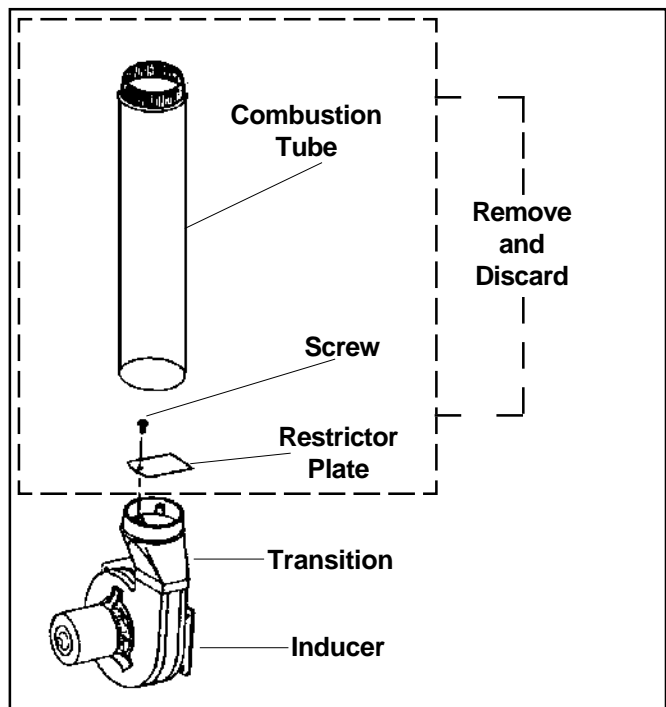

Figure 12. G6RK Horizontal Vent Modification
3. To gain access to the restrictor plate, remove and discard the combustion tube from the transition assembly. **Insure the seal between inducer and transition assembly is not broken.** (See Figure 12.)
4. Remove and discard the restrictor plate and screw from the transition assembly. (See Figure 12.)